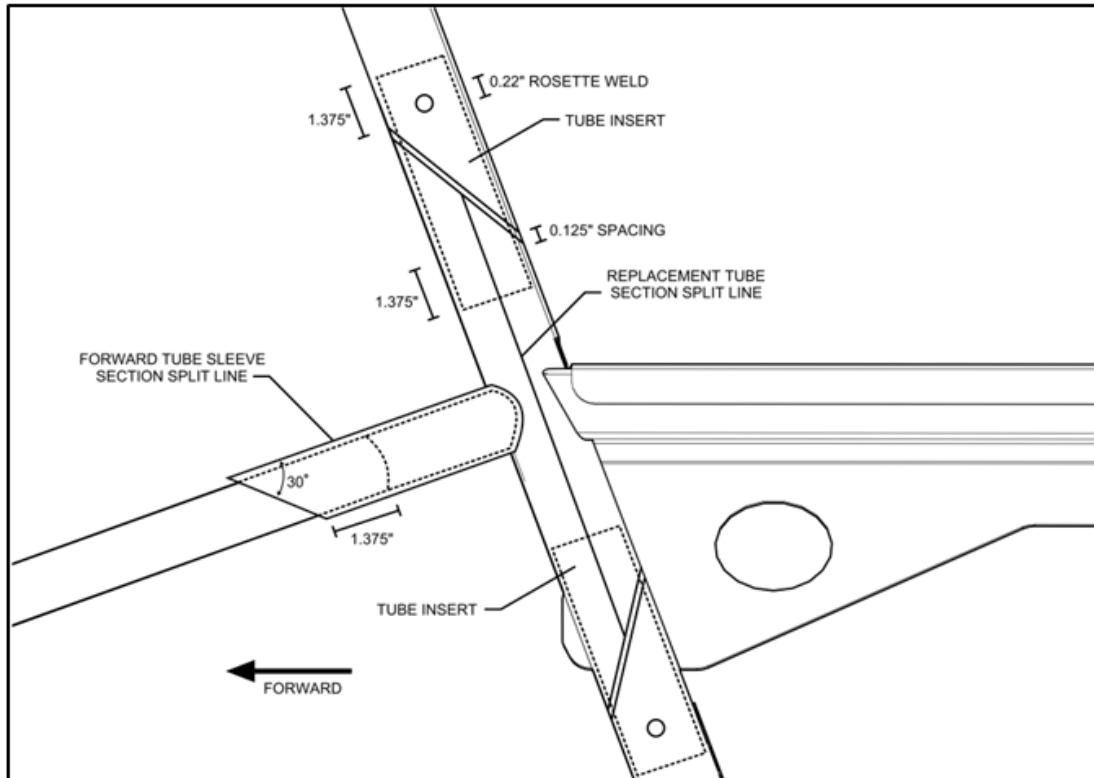

Figure 3 – Junction Assembly, View Looking Right
9. Cut the replacement tube in half lengthwise to be attached in assembly with the inserts and original vertical tube. The location of this split line in Figure 3 should be based on ease of assembly later.
12. Place one of the inserts in the top section original vertical tube and secure with an Ø0.22 rosette weld as shown in Figure 3. (rosette weld only required if insert does not stay snugly in place). Repeat with the other insert in the bottom section. All welds require welding filler rod #4130 per AMS 6457 or AWS A5.18